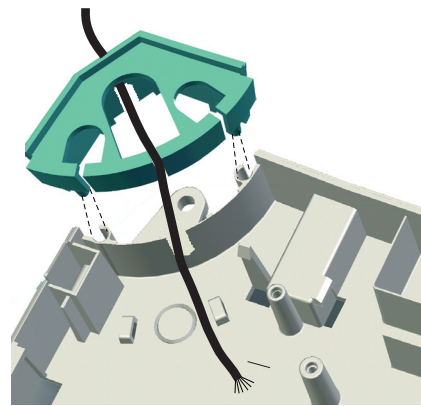

Figure 7 – Cable entry via knockouts
- The cable entry can be solved in many ways. There are knockouts in both the base and the corner elements. See figure 7.